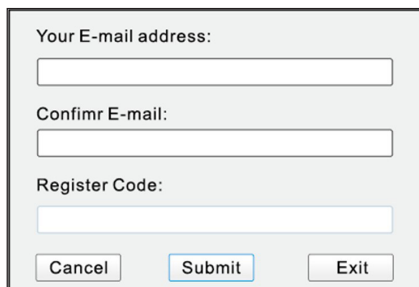

Figure 7-6
8. Enter the Serial Number and click [Device Upgrade] to enter the following screen. Input the required information and click [Submit]. (Figure 7-6)